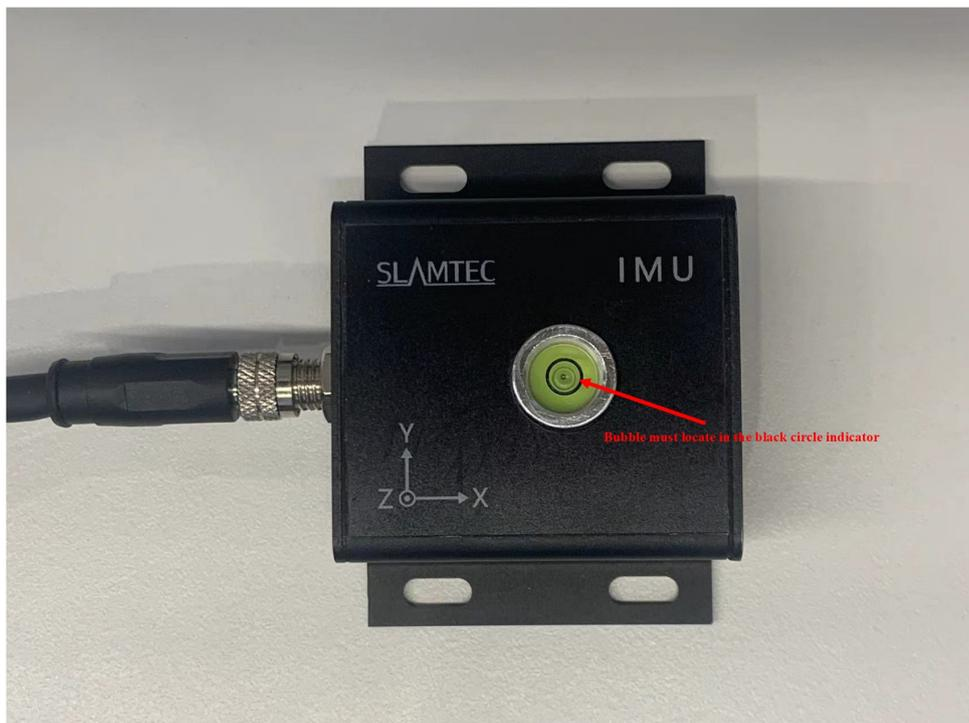

Figure 3.4: Horizontal Indication of License Card
- The license card needs to be installed horizontally, ensuring that the small bubble of gradienter on the license card is within the black circle indicator as shown in figure 3.4 .